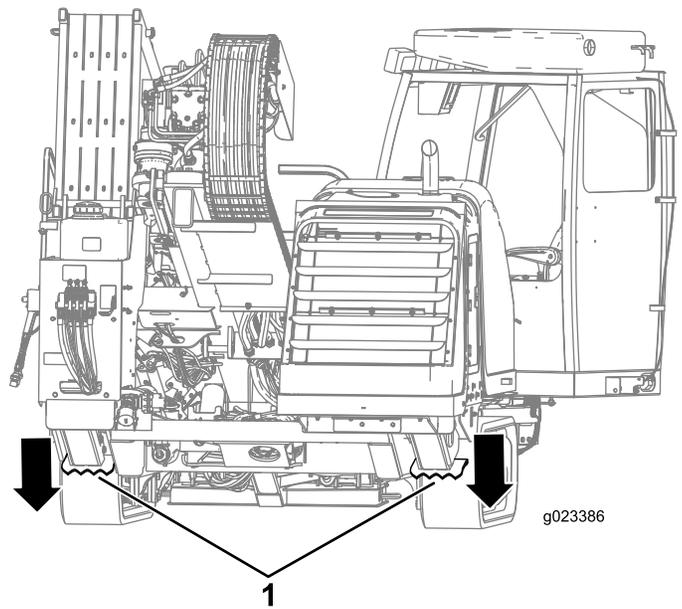

Figure 43
- Lower the rear stabilizers until they contact the ground firmly, or until the desired entry angle is achieved (Figure 43).